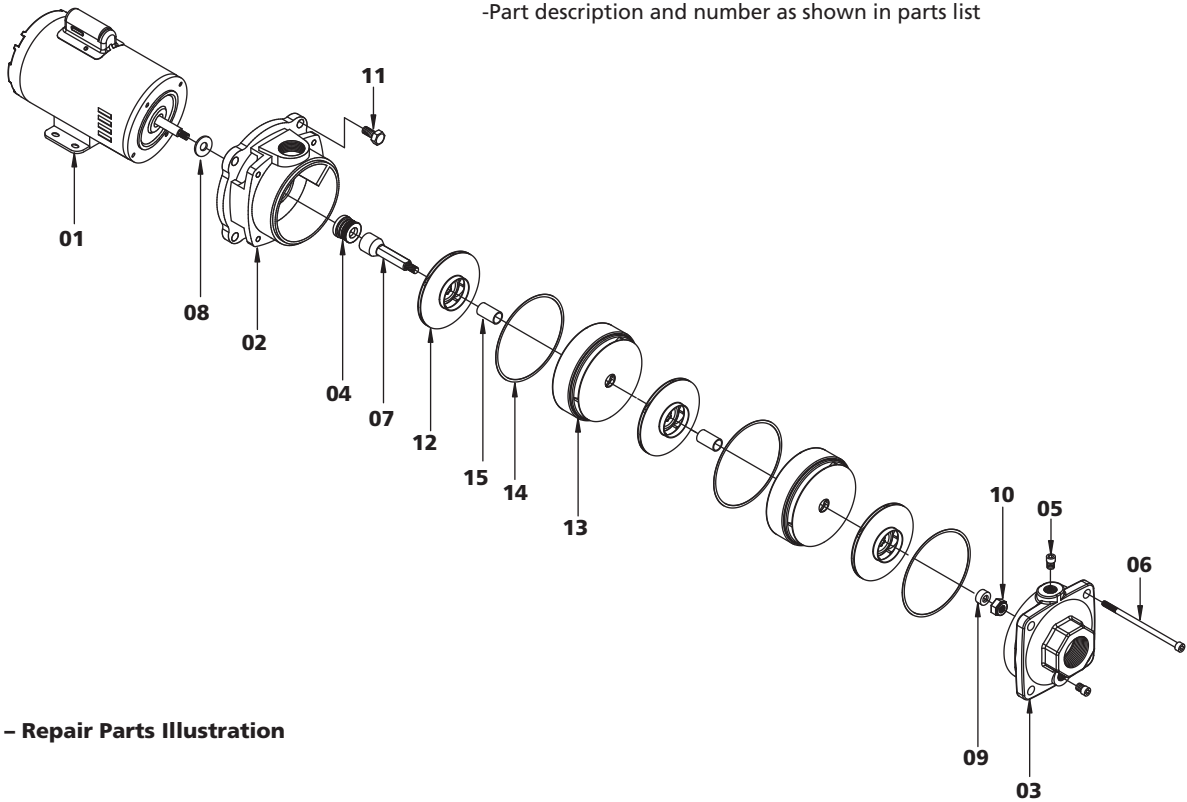

Figure 16 – Repair Parts Illustration
**NOTE :** refer the parts list (figure 16 and 17) during the pump disassembly and reassembly procedure on page 12 and 13.
To disassemble the pump refer to the exploded parts view as shown in figure 16. Following tools will be required.
Before reassembling the pump, carefully inspect the components for damage, wear and cleanliness. Replace old components with new components if required. Refer to the exploded parts view as shown in figure 16 for proper facing and parts arrangement.